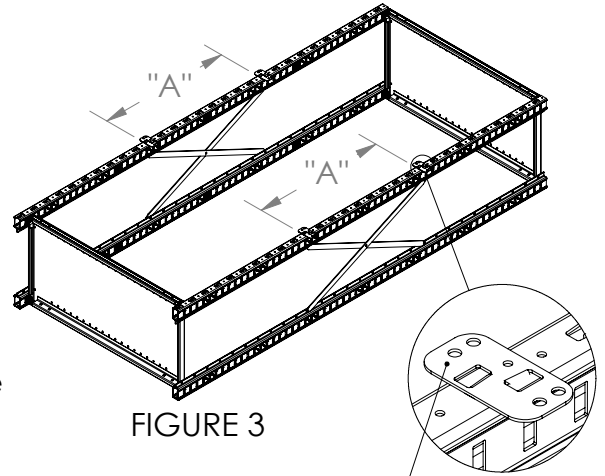

FIGURE 3
3. Attach combination clips to H-Post face at location shown in Fig. 3. Twist clip into slots.
For 7ft. & 8ft. posts, locate post connectors close to the bottom of the unit. For 10ft. & 12ft. posts use to set of braces, one near the bottom of the unit, the other 30" above. Be sure to put clips in same locations on all posts to insure proper alignment for attaching sway braces. For single faced or individual units a #14 x 5/8 type "B" hex head thread cutting screw must be screwed in the center hole to prevent rotation of connector. Fig. 3.